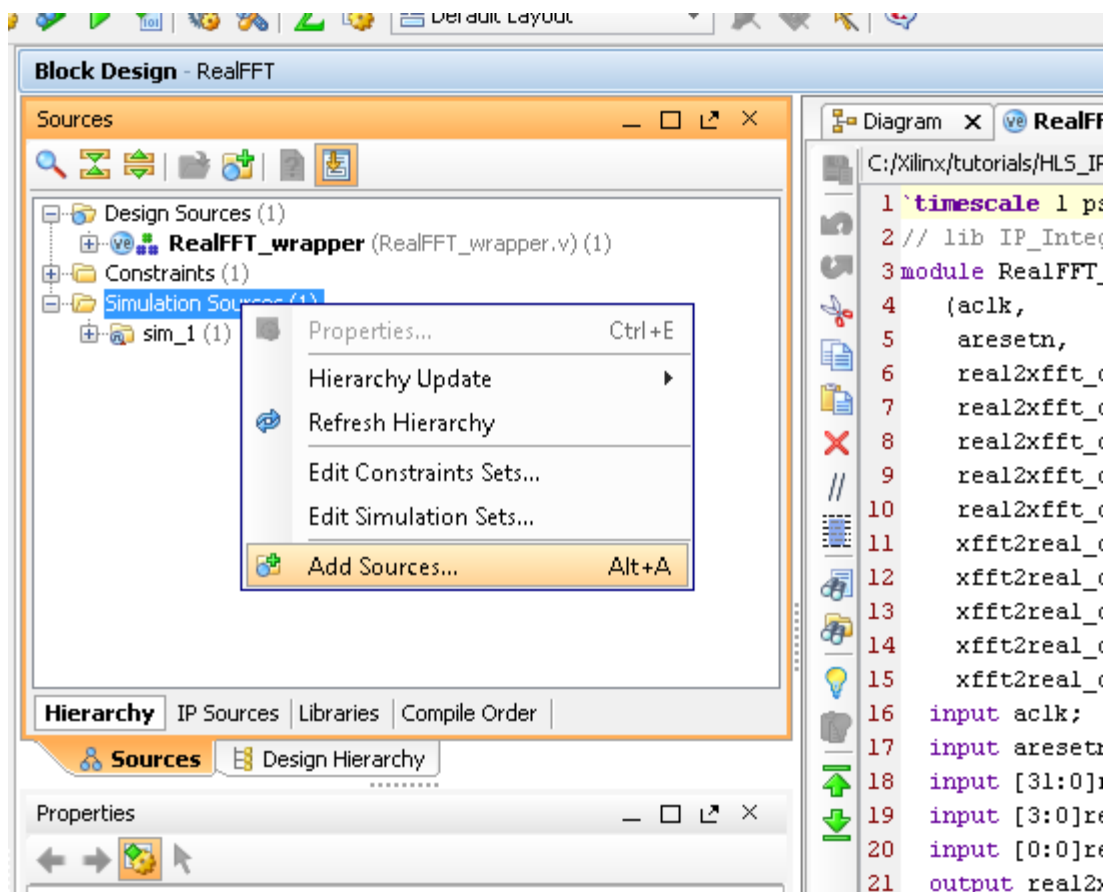

Figure 210: Adding Simulation Sources
- Right-click **Simulation Sources** in Sources tab of Project Manager pane (Figure 210).